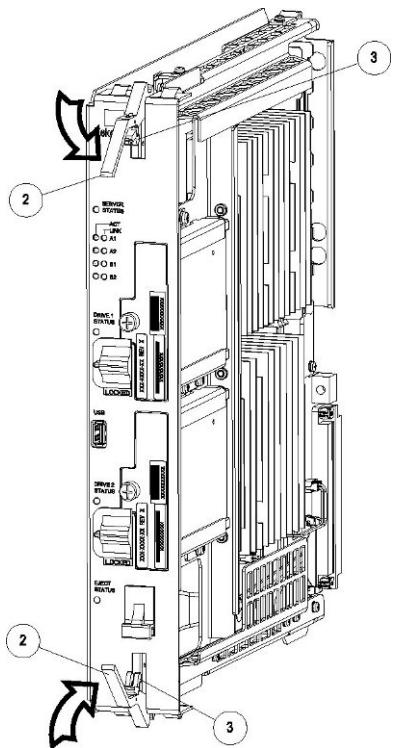

Figure 12: E5-APP-B Card Inject Levers
2. Grasp the upper and lower card Inject/Eject (I/E) lever release (3) just underneath the I/E lever, and press it to meet the I/E lever. This is the mechanical interlock for the card (see Figure 12: E5-APP-B Card Inject Levers).
3. While holding the I/E interlock and lever, pull the levers (2) away from the card until they are parallel to the floor.
5. Push in the top and bottom inject/eject clamps (see *Figure 12: E5-APP-B Card Inject Levers*).